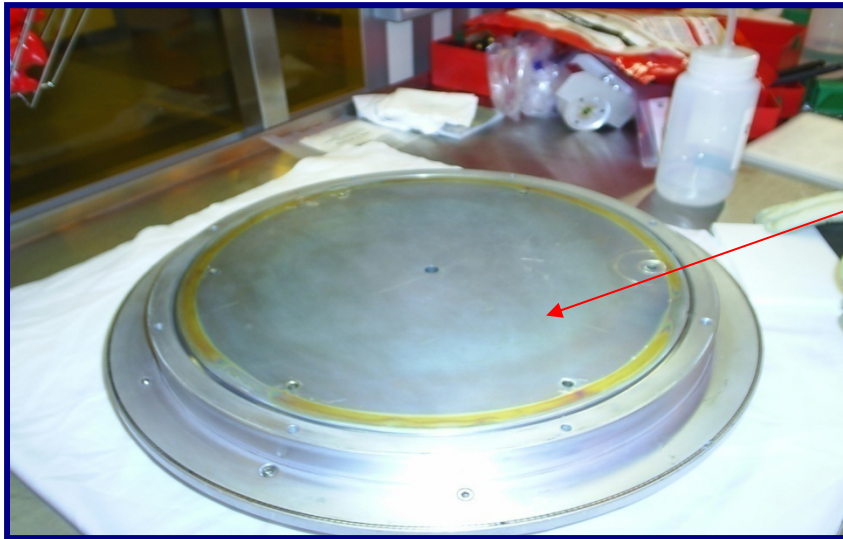

Fig 1: TiN deposition ring
- Step 2:** Effectively place HT9423 Cushion Pad underneath lid to soak up any excess DI water (See Fig 1)